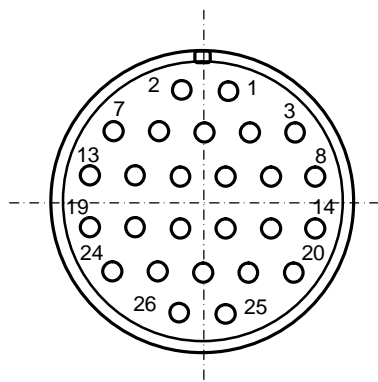

Figure E.3 – The HHPS Connector Pins Positions
Connector **J2** is installed on the other end of this cable, providing for communication between the HHPS and the CNC Unit. The pins lay out of connector **J2** is given in Figure E.3.
15.2.2.5 An external spring-shaped cable (25x0.14) is led into the HHPS case via a cable inlet. This cable input allows to fix the cable position in the HHPS case. The outside end of this cable has a connector (**J2**). The lay out of connector pins of the HHPS is shown in Figure E.3, the connector signals are shown in Table E.1. The delivery set of the HHPS includes the mating part of this connector: a unity socket with 26 pins.